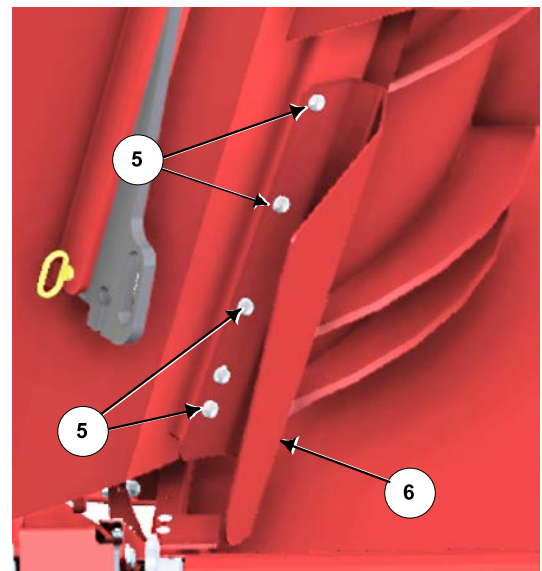

Figure 7: Attach the Bent Shield to the Tub
11. Attach the right rear bent shield to the tub, see *Figure 7*.
- Remove the bottom 4 locknuts (5) on the right tub door slide cap.
- Place the bent shield (6) over the 4 carriage bolts.
- Fasten with the 4 locknuts (5) removed earlier.